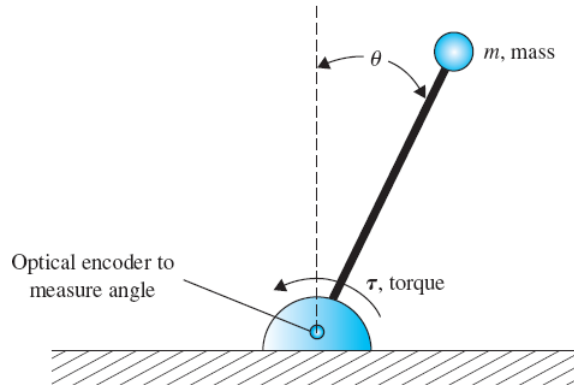

Figure 1
8. For the negative feedback control system shown in Fig. 1, find the equivalent transfer function from  $R(s)$  to  $\begin{bmatrix} Y(s) \\ U(s) \\ E(s) \end{bmatrix}$ .